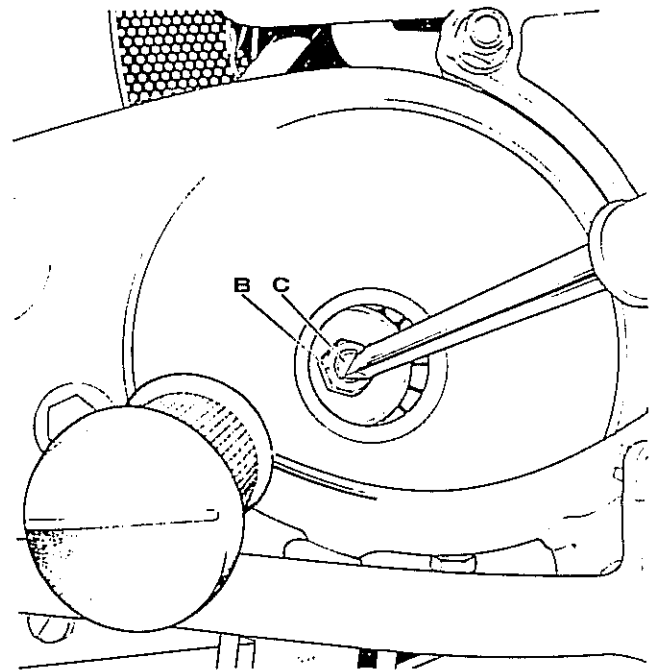

Fig. C48 Clutch adjustment
- 5 Release nut (B) in Fig. C48 then turn the screw (C) gently anti-clockwise until movement is felt on the right side operating lever.
- 6 Turn screw (C) in a clockwise direction until it is felt that the screw just touches the push rod.
- 7 Unscrew adjustment screw (C) one full turn and, holding in this position retighten locknut (B). This ensures the correct free movement on the clutch push rod.